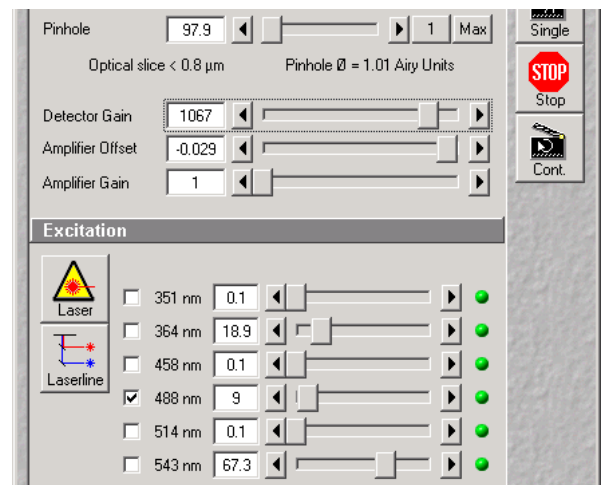

Fig. 21 Scan Control window, Channel settings
- Set the **Pinhole** to 1 Airy Unit (Fig. 21).
- When the image is saturated, reduce AOTF transmission in the **Excitation** panel (Fig. 21) using the slider to reduce the intensity of the laser light at the specimen.
- Increase the **Amplifier Offset** until all blue pixels disappear, and then make it slightly positive (Fig. 21).